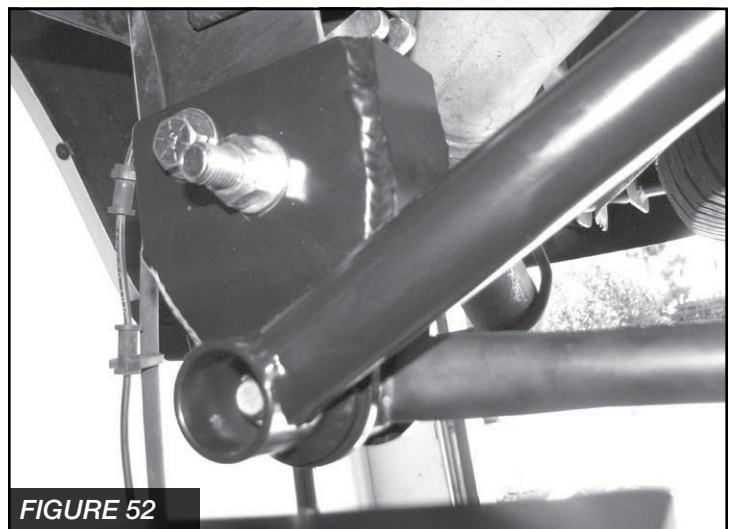

FIGURE 52
68. Use the open $\frac{1}{2}$ " holes in the Fabtech bracket as guide to drill out the two holes for the locking bolts in the factory bracket. Insert the two $\frac{1}{2}$ " x 1" bolts with nuts tabs FT30182. Torque to 90 ft.-lbs. Torque the 14mm bolt in the stock pivot hole to a 160 ft.-lbs. Torque the frame side of the trac bar support tube to 317 ft.-lbs. **SEE FIGURE 52**